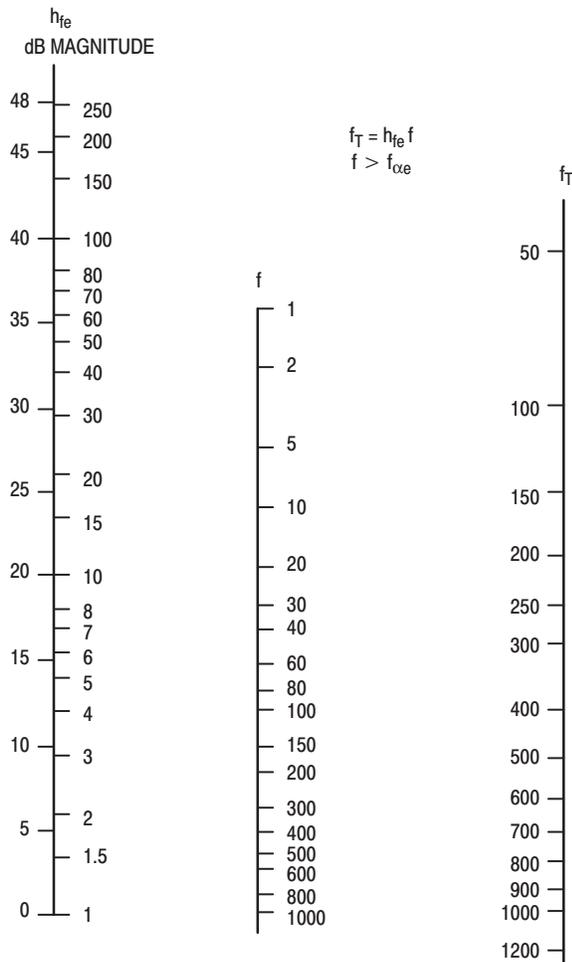

Figure 4. This Nomogram is Useful in Finding h_{fe} , when a Frequency $f > f_{\alpha e}$
- Rule 3: When $f > f_{\alpha e}$, consider h_{fe} to be decreasing at 6 dB per octave at frequency f and use Figure 4 to find h_{fe} .
Figure 4 is a nomogram of f_T and h_{fe} at some frequency f , where $f > f_{\alpha e}$. Given: h_{fe} at 100 MHz is 6 dB. Find: h_{fe} at 75 MHz. Answer: 4, or 12 dB.